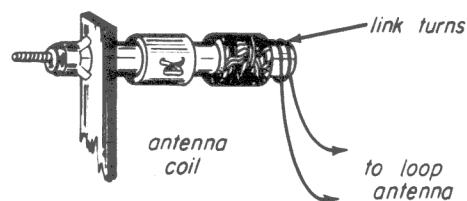

Fig. 36-16
Step 3. Move the one turn link to the very edge of the antenna coil, as shown in Fig. 36-16, to obtain loose coupling.